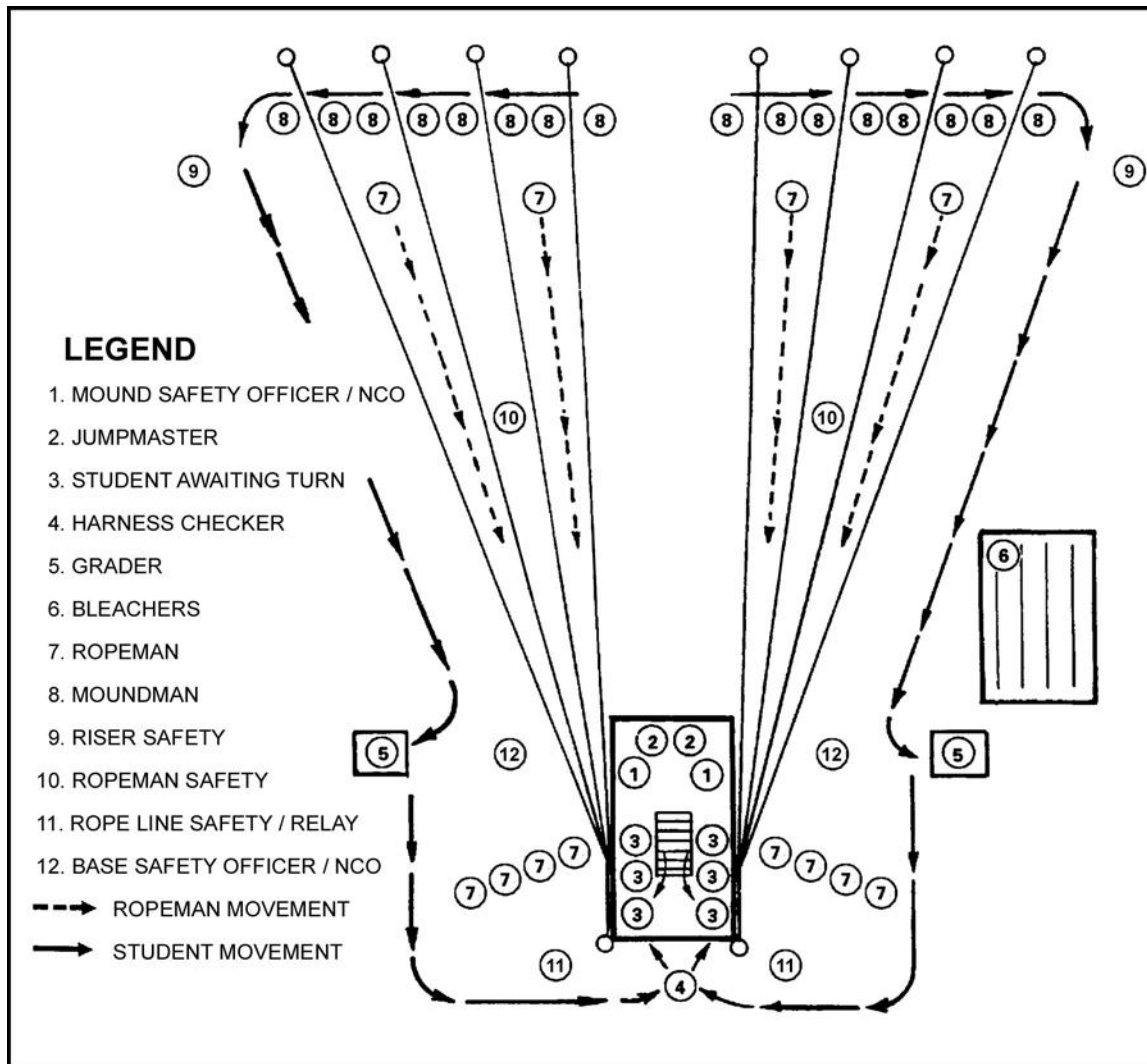

Figure 4-10. Tower personnel positions.
a. **Instructors.** A minimum of seven instructors are required to operate this apparatus. Their positions are indicated in Figure 4-10 (page 4-16).
(1) Two JMs hook up students in the tower and issue the last two jump commands.
(2) One harness checker inspects all harnesses before students exit the tower.
(3) Two graders on the ground critique and grade the students' performance on the apparatus.
(4) Two mock door instructors correct students on problem areas and give them additional practice.